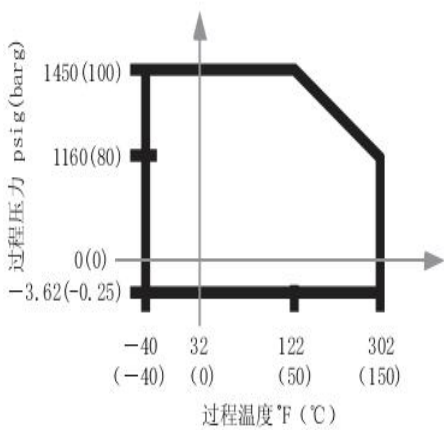

图2 过程压力
12. See Figure 2 threaded connections